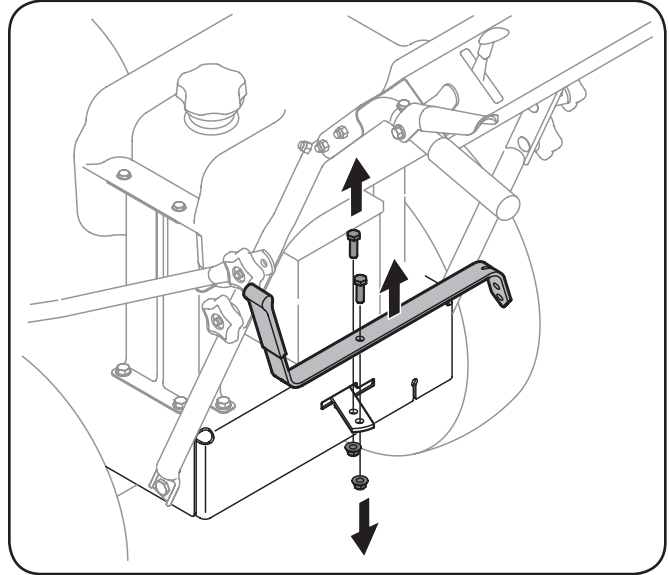

Figure 3-5
1. Remove the screw and the lock nut that secures the shift lever to the shift lever plate. See Figure 3-5.
2. Remove the remaining screw and nut from the lower shift lever plate. See Figure 3-5.